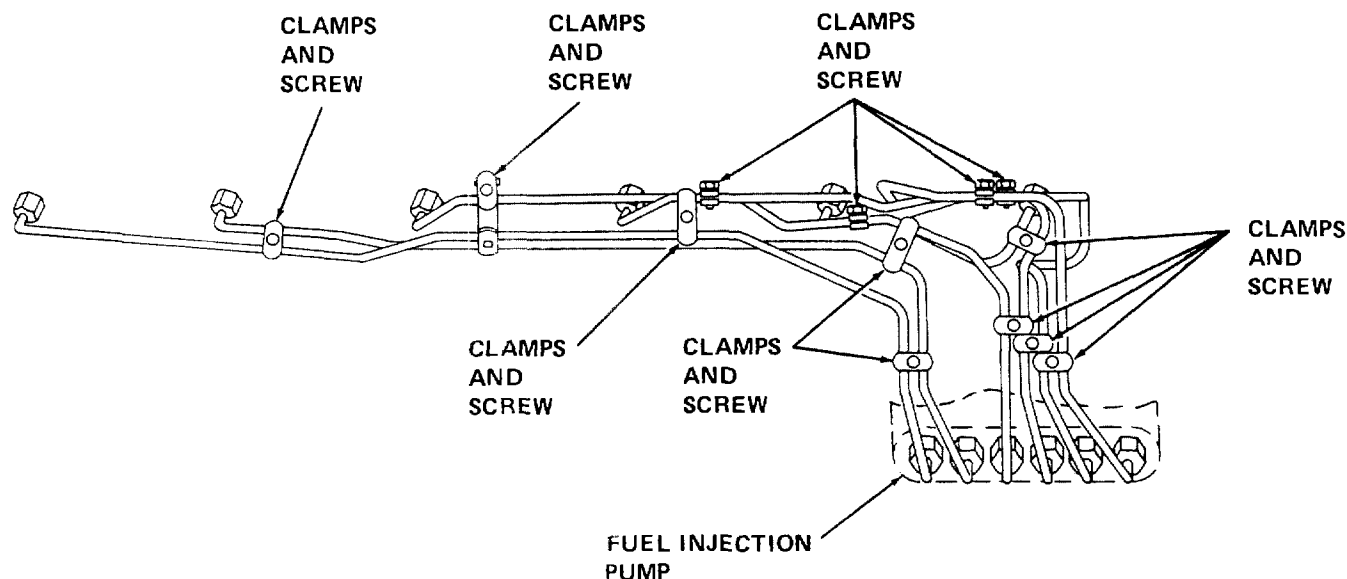

Figure 4-48. Fuel Injection Lines, Removal and Replacement
a. Inspection of Fuel Injection Lines. Refer to figure 4-48 and inspect lines, for leaks, deformation and security of attachment. Cracked or missing paint may indicate a leak.
b. Replacement of Fuel Injection Lines. When fuel injection lines are removed from the engine put identification tags on the fuel lines as they are removed, so they can be put in the correct location when they are installed (see figure 4-48).
(1) Remove defective lines, as required, by loosening the nuts which secure the line to the fuel injection pump and fuel injection valve.
(2) Remove clamps and screws as required.
(3) Install new lines by first securing line to fuel injection pump and fuel injection valve. Tighten the fuel line nuts to 30  $\pm$  5 foot-pounds (40  $\pm$  7 Newton-meters).